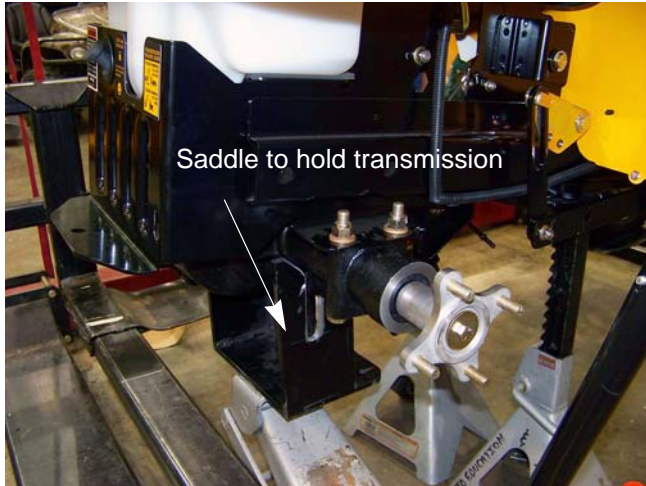

Figure 5.20
12. Remove the four bolts that fasten the transmission to the frame. See Figure 5.20.